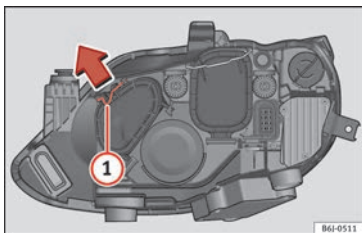

Fig. 97 Double headlight.
- Move the loop **1** in the direction of the arrow and remove the cover **» Fig. 97.**